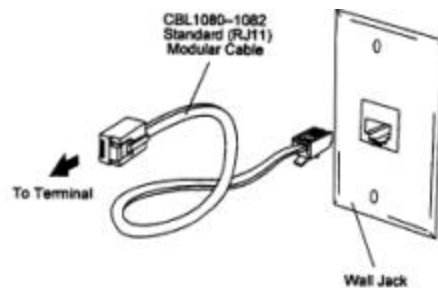

**Figure 4: Modem Label Application**
Although the port is identified **RS485** (chassis marking), a self-adhesive label that reads **MODEM** is applied over the existing chassis marking as shown in Figure 4.
- Route and connect one end of the telephone cable to the terminal (refer to Figure 4)